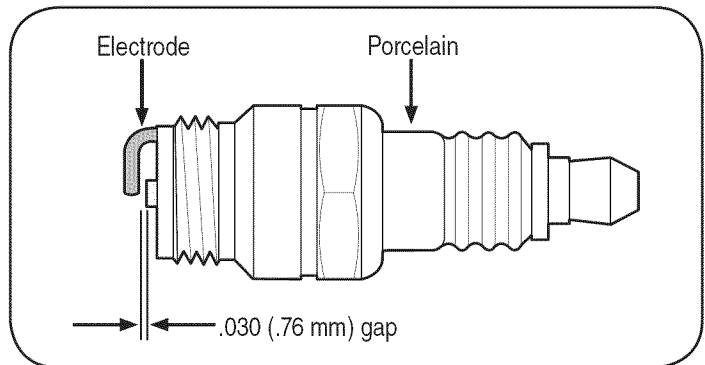

Figure 30
2. Remove and inspect the spark plug. Check gap to make sure it is set at .030". See Figure 30.